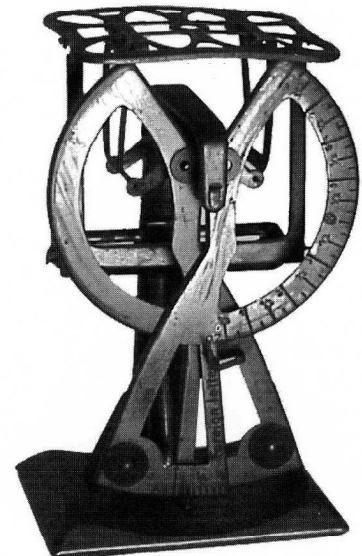

Fig. 4 ▲▲ Austrian bilateral type postal balance for foreign letters. Capacity 8 ounces.
If the exceptionally deep (thick) pair of weights were made for the scale shown on page 2991, Figure 4 (and the bottom weight seems to fit the tray very well) then there must have been at least two smaller weights, thus obscuring the A-frame even more from the owner's view. In my opinion, Mordan did not seem too concerned about hiding the A-frame and pointer from the user, although he certainly had two means at his disposal to do so. (1) He could have raised the A-frame as shown in Figure 4, page 2991. (2) He could have used the shallowest and largest diameter of Mordan's three weight types.
1. The extremely thick weights with the smallest diameter as shown in Figure 4, page 2991.